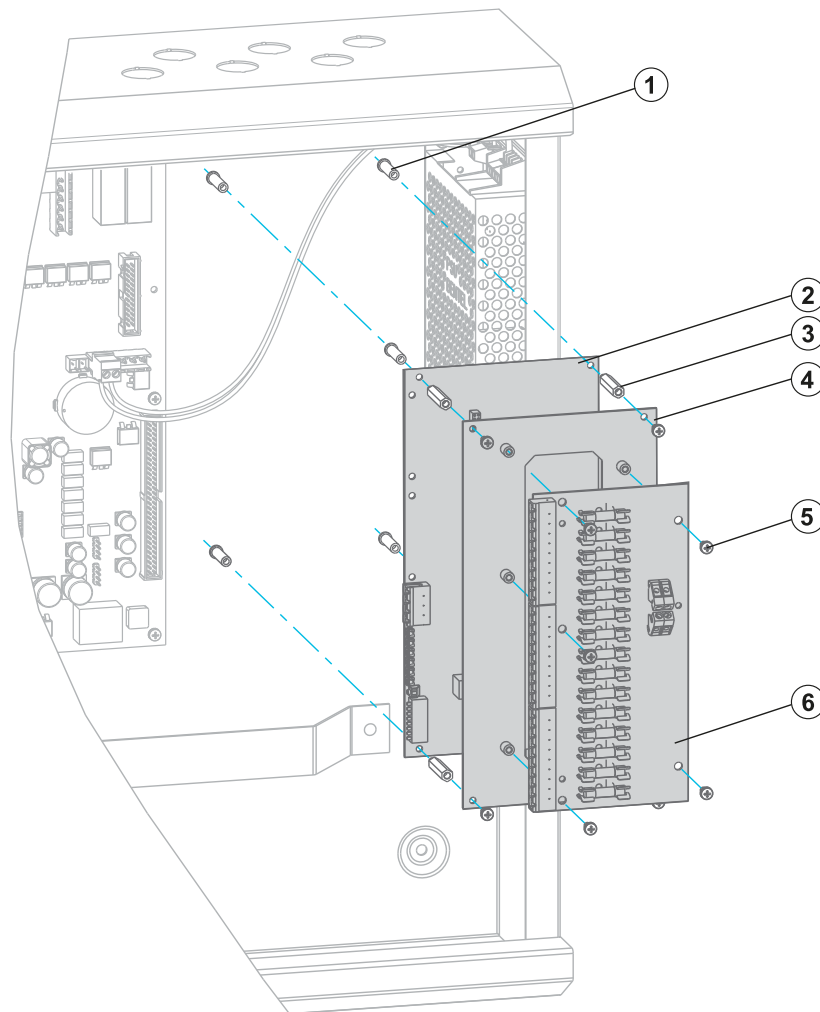

Fig. 23: Card installation in a stacked arrangement
To even out the current flow, plan a stacked card arrangement similar to the one shown in Fig. 23. If fitting a PNI800 card, fit this first so that it is at the back of the group of cards. Other cards require more connections and it is easier to plug in cables if they are fitted towards the front of a group of cards.
You can mount the PNI800 card and the FB800 board on the FC600 series panel in a stacked arrangement using the pillars, washers and nuts that are supplied with the card or board. A maximum of three cards or boards can be fitted. Make sure that you fit the larger items (such as the PNI800) before smaller ones (such as the FB800). The old cards holder (120.008.130) is supplied with the optional P-EXP Panel Expansion Kit (557.202.807). Refer to Fig. 23 and complete these steps:
- 3 Put the first board on top of the pillars provided (item 1 in Fig. 23). Secure the card using washers and
- 4 Attach stand-offs to the back of the panel housing (see item 1 in Fig. 23).